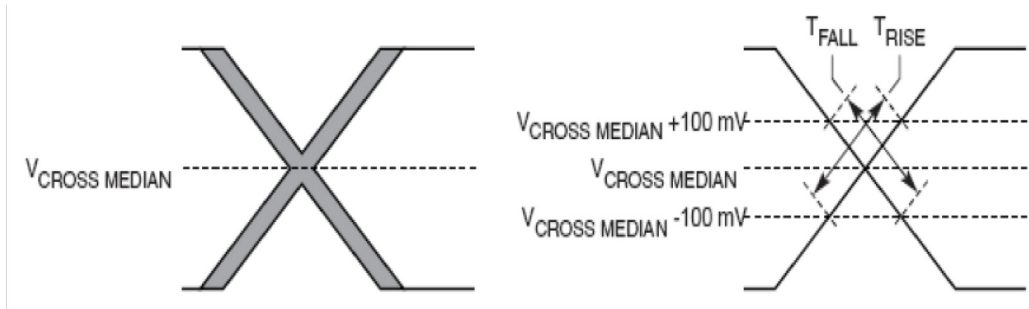

Figure 42. Single-ended measurement points for rise and fall time matching
- Matching applies to rising edge for SD_REF_CLKn and falling edge rate for SD_REF_CLKn. It is measured using a 200 mV window centered on the median cross point where SD_REF_CLKn rising meets SD_REF_CLKn falling. The median cross point is used to calculate the voltage thresholds that the oscilloscope uses for the edge rate calculations. The rise edge rate of SD_REF_CLKn should be compared to the fall edge rate of SD_REF_CLKn, the maximum allowed difference should not exceed 20% of the slowest edge rate. See Figure 42.